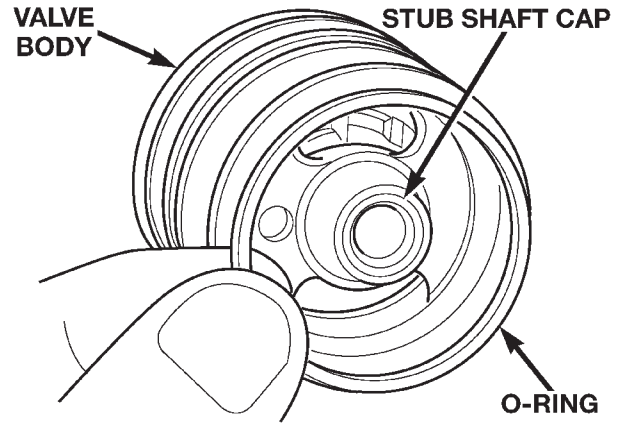

Fig. 16 Stub Shaft Cap O-Ring
- (5) Install O-ring into the back of the stub shaft cap (Fig. 16).
- (6) Install stub shaft and valve assembly in the housing. Line up worm shaft to slots in the valve assembly.
- (7) Install thrust support assembly.